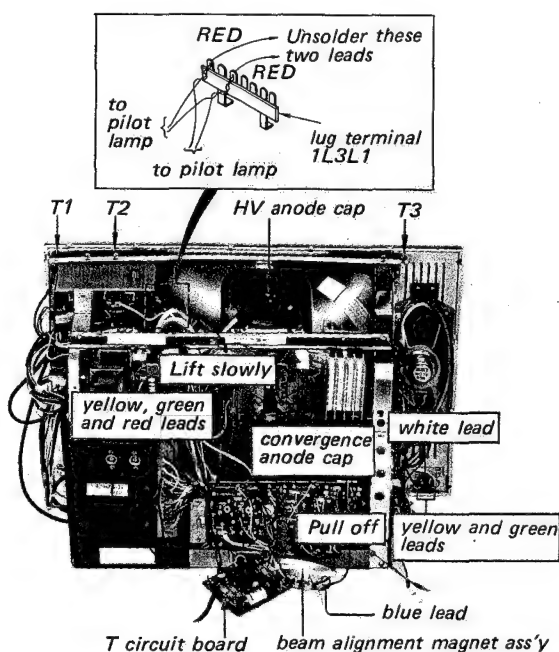

Fig. 2-26.
4. Unsolder the two red leads that are connected to the lug terminal (1L3L1) as shown in Fig. 2-26.
8. Unsolder the blue lead on the beam alignment magnet assembly. (See Fig. 2-26.)
12. Remove the three screws labeled T1~3 in Fig. 2-26.
5. Insert the picture tube into the set. Install and tighten the nine screws shown in Figs. 2-26 and 2-27.